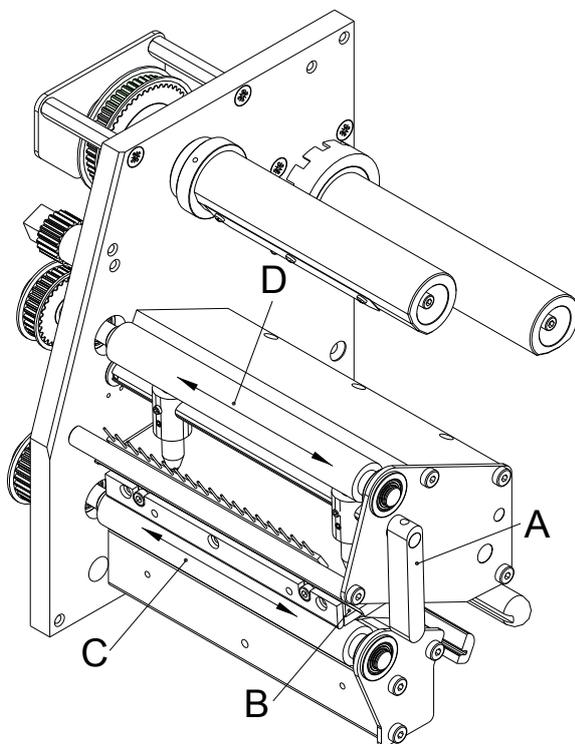

Figure 2
1. Turn the lever (A, Figure 2) counter clockwise to lift up the printhead.